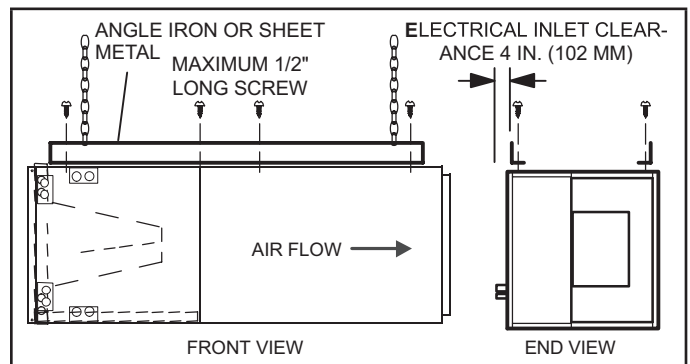

FIGURE 6. Suspending Horizontal Unit
- 5 - If the unit is suspended, the entire length of the cabinet must be supported. If you use a chain or strap, use a piece of angle iron or sheet metal attached to the unit (either above or below) to support the length of the cabinet. Use securing screws no longer than 1/2 inch to avoid damaging the coil or filter. See FIGURE 6. Use sheet metal screws to connect the return and supply air plenums as required.
- 12 - If suspending the unit, it must be supported along the entire length of the cabinet. If using chain or strap, use a piece of angle iron or sheet metal attached to the unit (either above or below) so that the full length of the cabinet is supported. Use securing screws no longer than 1/2" to avoid damage to coil or filter, as illustrated in FIGURE 6. Connect return and supply air plenums as required using sheet metal screws.